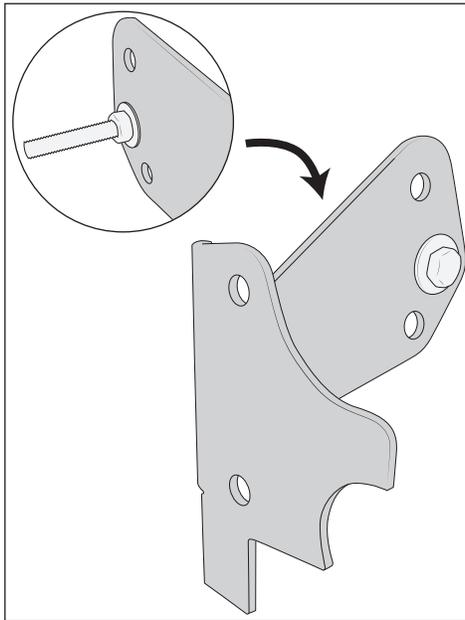

Figure 22
16. Pre-assemble the front part of the track bar bracket as shown using the supplied bolt, washers, and free-spinning nut (Fig. 22).